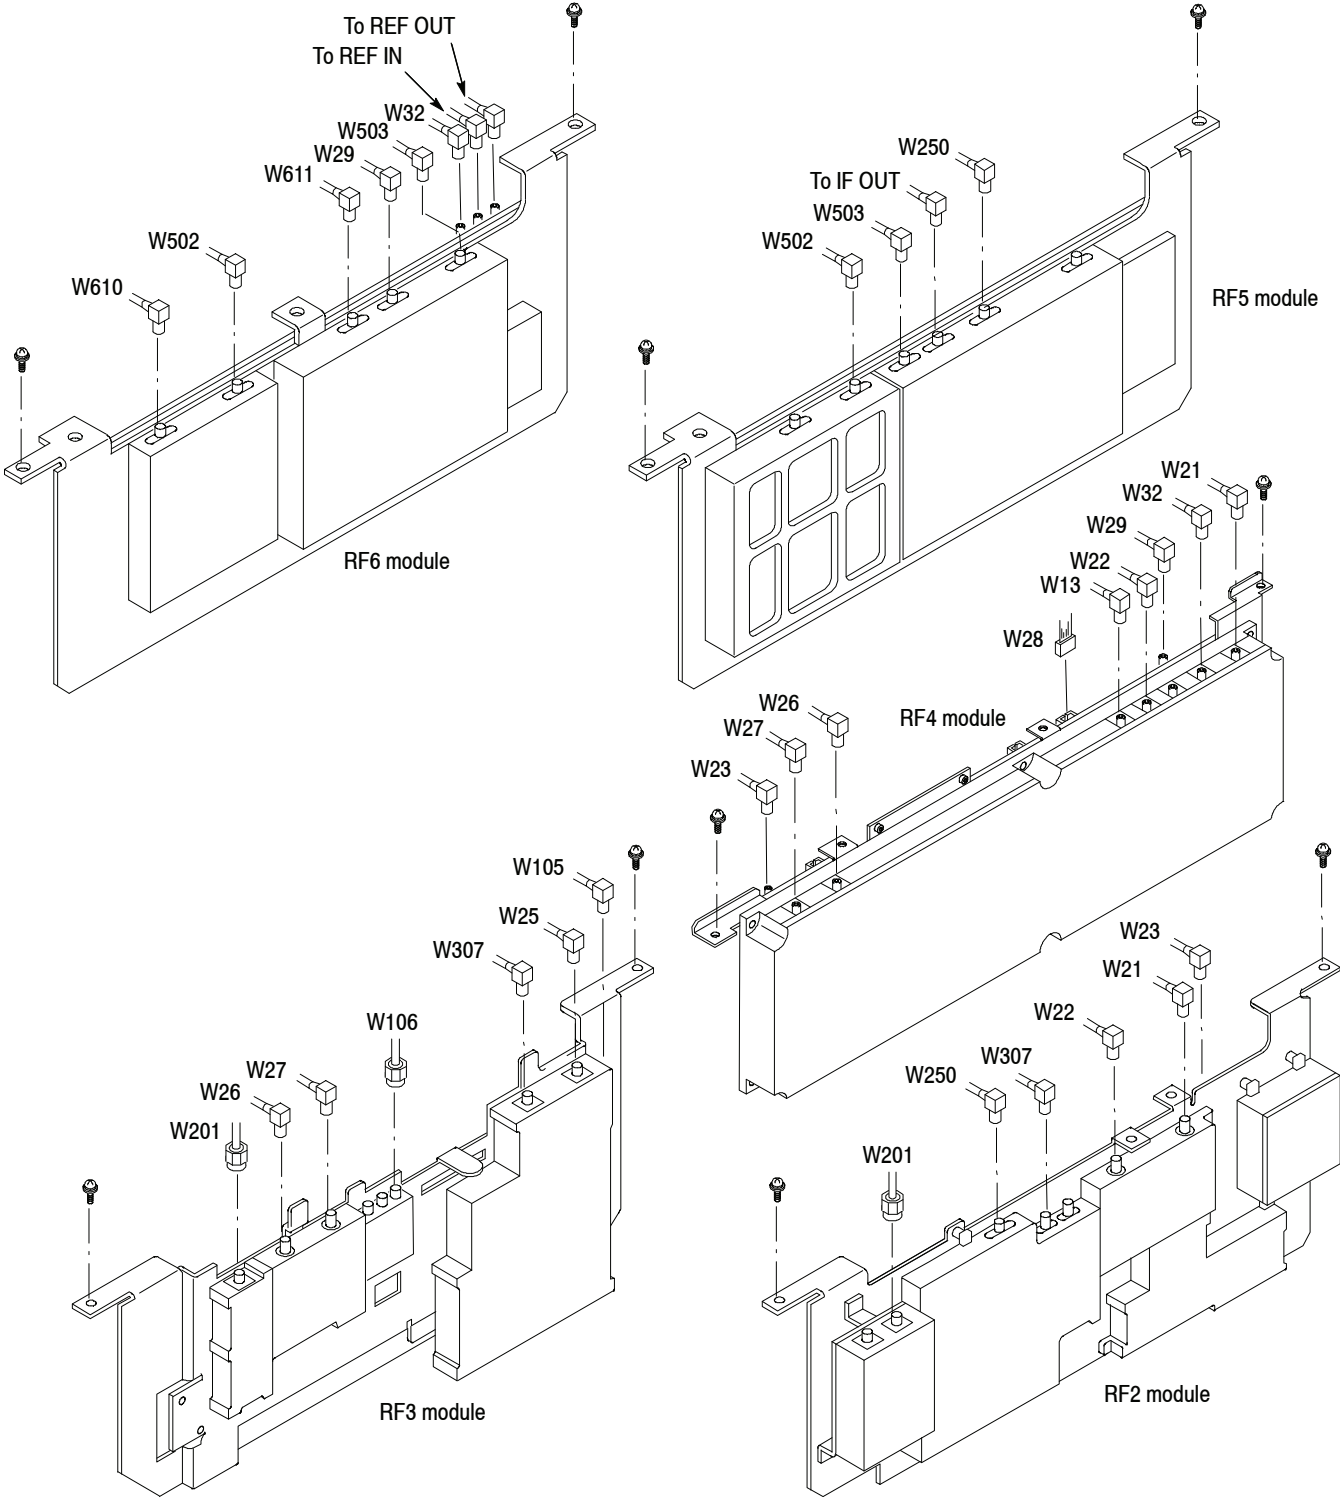

Figure 6-15: RF modules removal
3. *Remove the RF2 module:* See Figure 6-15. Also see Figure 6-37 on page 6-75 for the cable interconnection.
3. *Remove the RF3 module:* See Figure 6-15. Also see Figure 6-37 on page 6-75 for the cable interconnection.
3. *Remove the RF4 module:* See Figure 6-15. Also see Figure 6-37 on page 6-75 for the cable interconnection.
3. *Remove the RF5 module:* See Figure 6-15. Also see Figure 6-37 on page 6-75 for the cable interconnection.
3. *Remove the RF6 module:* See Figure 6-15. Also see Figure 6-37 on page 6-75 for the cable interconnection.